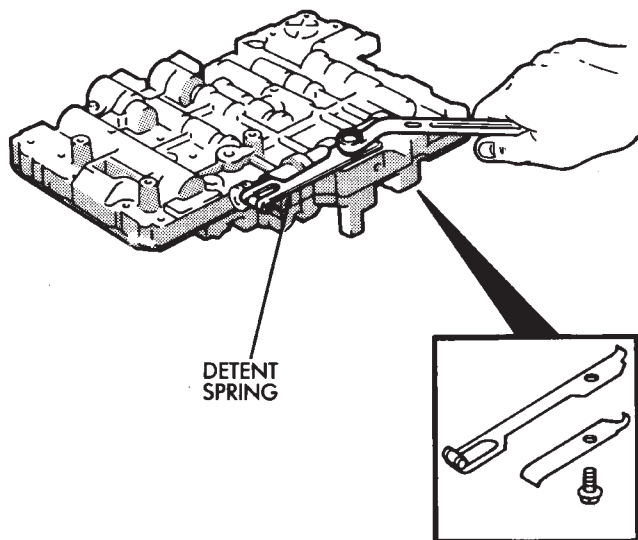

Fig. 5 Installing Detent Spring
- (7) Install two-piece detent spring (Fig. 5). Tighten spring attaching bolt to 10 N·m (7 ft. lbs.) torque.